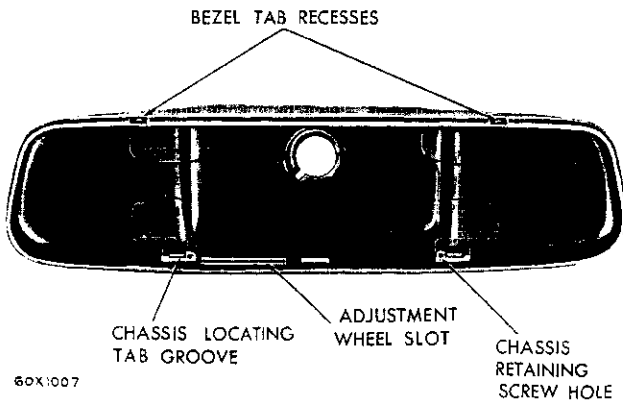

Fig. 26—Locating the Grooves
- (3) Locate the ball joint in the down position towards the adjustment wheel.
- (4) Bend the top of the case upwards to disengage each of the upper tabs from the case retaining grooves (Fig. 26).
- (5) Press on the ball joint extension so as to tip the mirror assembly out of case.
- (6) Pivot the adjusting wheel in the slot of the case until the upper part of the electronic chassis is outside of the upper forward edge of case.